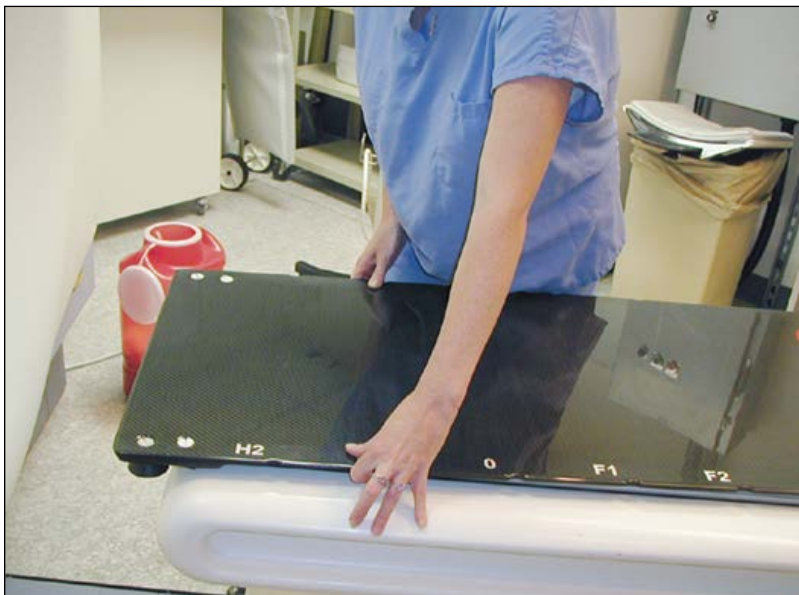

Fig. 33
4. Set the CT Overlay on Canon CT cradle with the head of the CT Insert 3 in. forward of the final position and centered on the Canon CT cradle (Fig. 33).